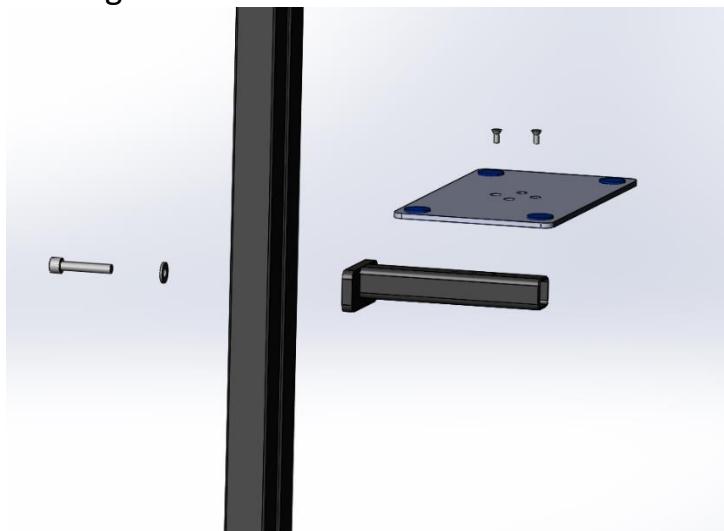

Figure 2
3. Mount the "R" Stalk platform assembly to the stands upright. Use 1 ea. 7/16-14 x 2.5 Socket Head Cap Screw and 1 ea. 7/16 Black Hardened Washer as shown in Figure 2.